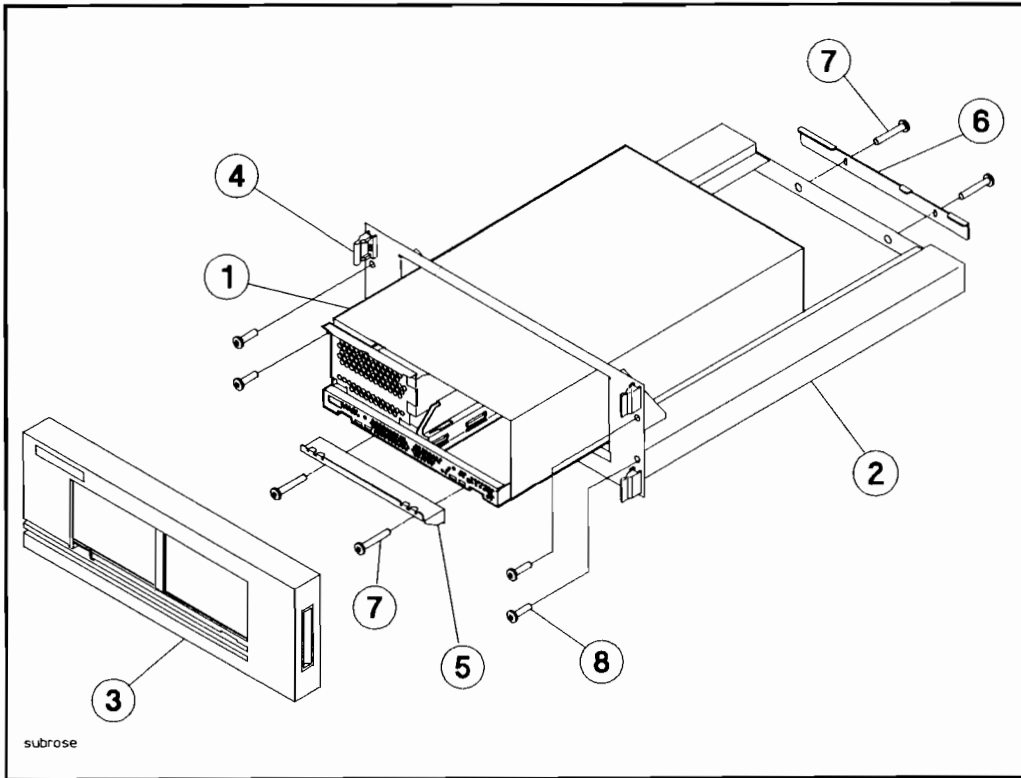

Figure 1-3. Installing the Mass Storage System into C2785A/86A Cabinets
Your mass storage system may be shipped with additional parts required to install it into a 19-inch cabinet. Figure 1-3 shows the parts for installing the mass storage system into the HP C2785A/86A cabinets. Assemble the parts as follows:
6. If necessary, remove the mass storage system from its rack or cabinet (see Figure 1-3).